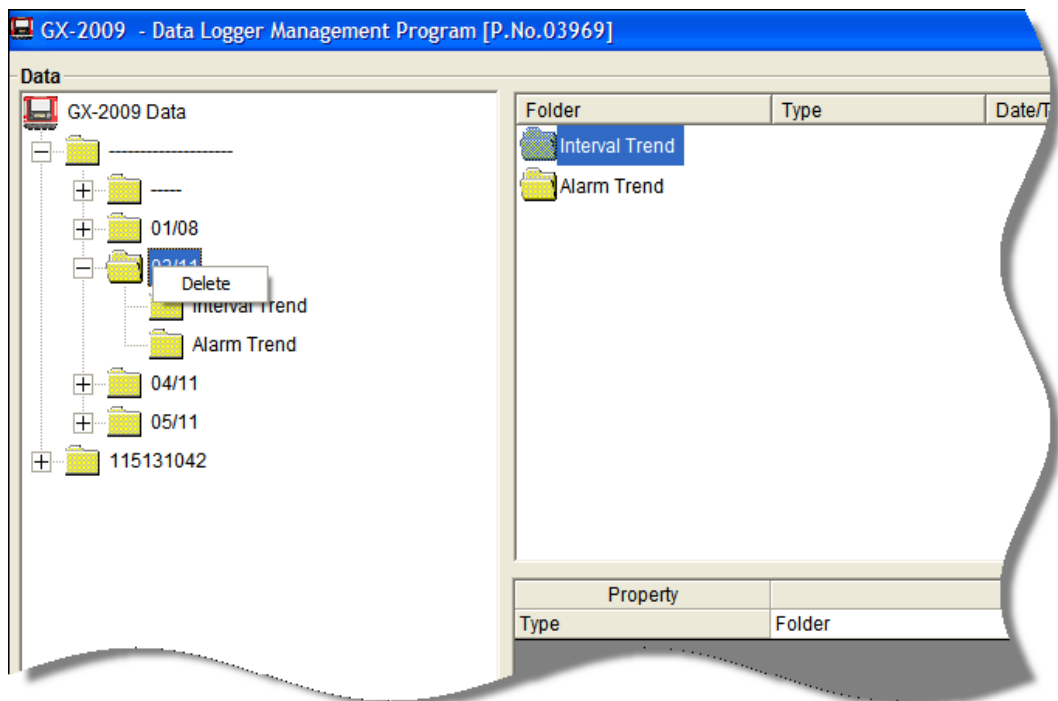

Figure 43: Delete Box
6. When the password has been entered and **Continue** clicked, the Delete Data Window (if a folder is selected for deletion) or Delete Sample Window (if a file is selected for deletion) will appear asking you to confirm that you want to delete the selected folder or file. In the example below, the Delete Data Window appears because the data folder shown in Figure 43 has been selected for deletion.